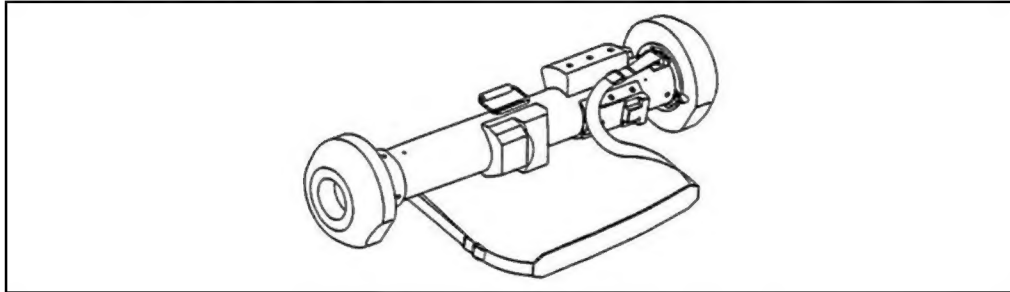

Figure 1-4. Missile simulation round.
d. **Missile Simulation Round.** The MSR is a field handling round with a simulated launch tube (Figure 1-4). It replicates the weight and balance of the actual round. The FTT contains no instruments or circuitry and is used to train gunners on how to maintain, handle, and carry the round.